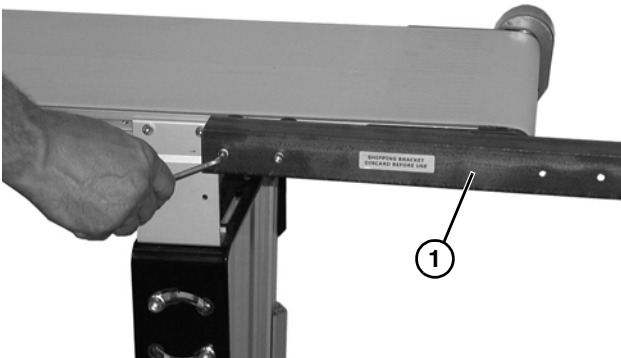

Figure 5
- 2200 Series only: Remove and discard shipping brackets (**Figure 5, item 1**).